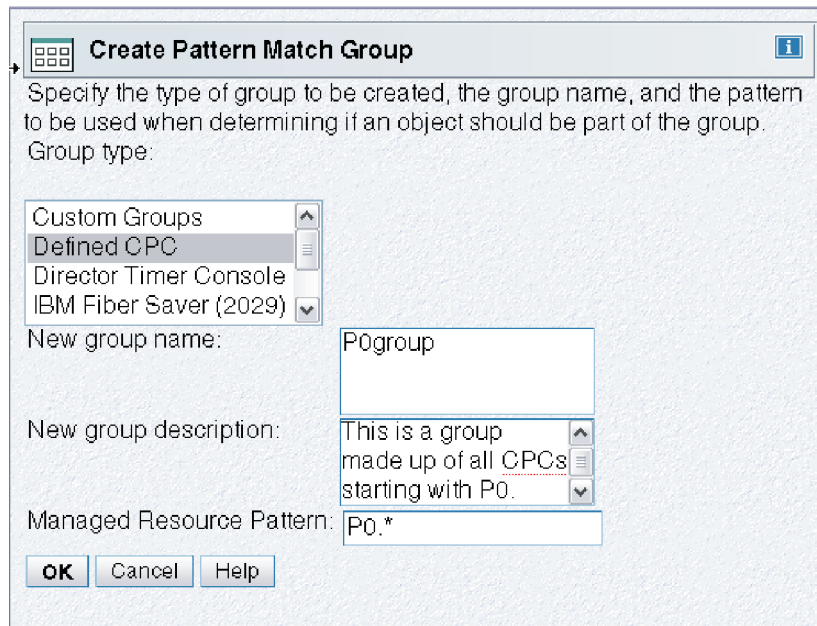

Figure 50. Create pattern match group window
2. As shown in Figure 50 on page 141, select the **Group type** you are creating.